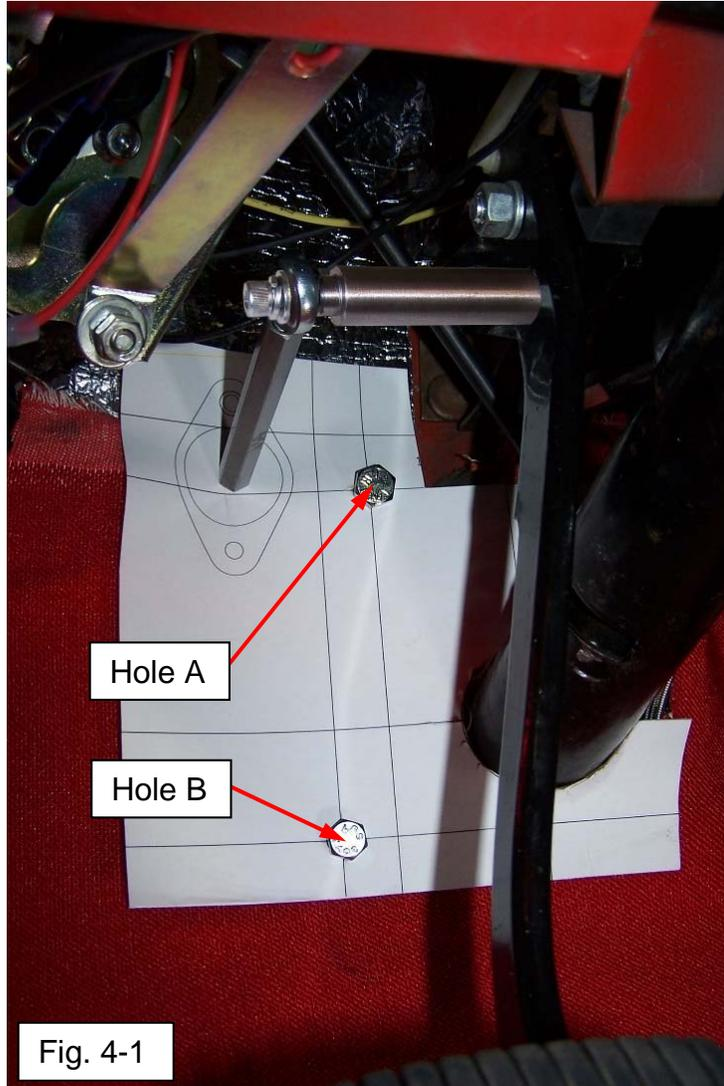

Fig. 4-1
1. The master cylinder mount block will be located using existing hole(s) in the firewall (See Fig. 3-1 and Fig. 4-1). Holes A and B are existing mounting holes for attaching the steering column carpet pad. Hole A is upper left and Hole B is the lower left. If present, remove clutch pedal and shaft assembly.
2. There are (2) options for locating the (2) mount block mounting holes shown on the cutting template TMG-01950.
- b) If using the REAR VIEW cutting template working from inside the cabin, cut the template and position over (2) 5/16 bolts inserted into Hole A and Hole B as shown in Fig.4-1.
3. For either method selected, mark location of the (2) mount block mounting holes and the center hole. Carefully drill (2) 0.34" dia holes thru the firewall. Cut 1-1/4" dia center hole thru firewall and deburr.
4. Assemble mount block gasket to mount block, then insert the master cylinder and mount block assembly to the firewall with the (2) studs protruding into the cabin area.
3. Assemble 5/16-18" x 1-1/4" bolt with (1) lock washer and (1) flat washer through rod end on master cylinder pushrod. Install finger tight to pedal mounting lug. See Figs. 4-1, 6-1.
1. The clutch pedal arm has (2) holes. The linkage mounting lug will be attached in the lower hole located at approx. 2.5" radius from center of the clutch pedal shaft. See page 6 for pictures of mounting lug kit components and pedal assembly.
4. Assemble 5/16-18" x 1-1/4" bolt with (1) lock washer and (1) flat washer through rod end on master cylinder pushrod. Install to pedal mounting lug finger tight. See Figs. 4-1, 6-1.